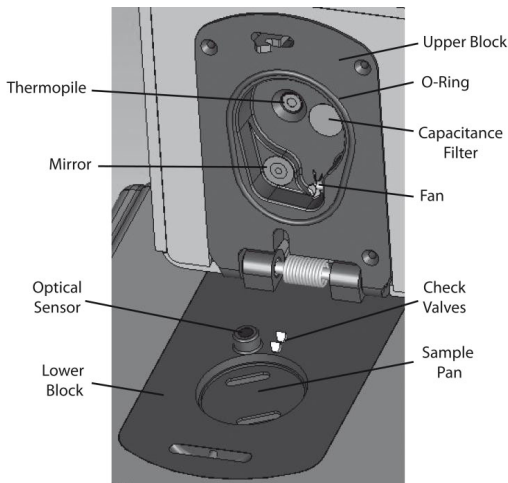

Figure 14: Sample Chamber Breakdown
*Note: Be extremely careful not to damage the fan blades (Figure 14) when cleaning the chamber.*